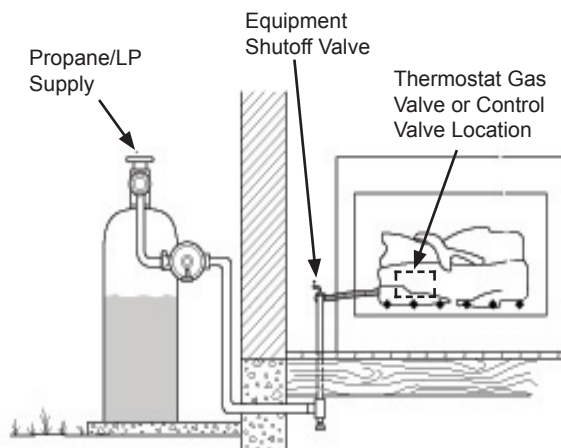

Figure 15 - Checking Gas Joints (propane/LP only)
3. Check all joints from gas meter to equipment shutoff valve for natural gas or propane/LP supply to equipment shutoff valve for propane/LP (see Figure 15, page 13). Apply noncorrosive leak detection fluid to all joints. Bubbles forming show a leak.
4. Check all joints from equipment shutoff valve to gas control (see Figures 15 and 16 page 13). Apply noncorrosive leak detection fluid to all joints. Bubbles forming show a leak.